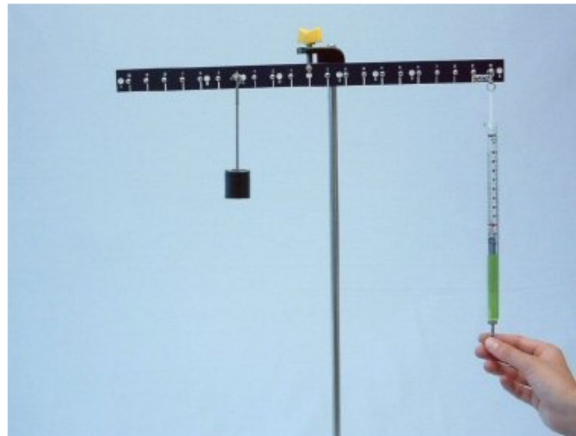

Fig. 7
- Move the load successively to the 8, 6, 4 and 2 marks on the left side and measure the force F for each position (Fig. 7).